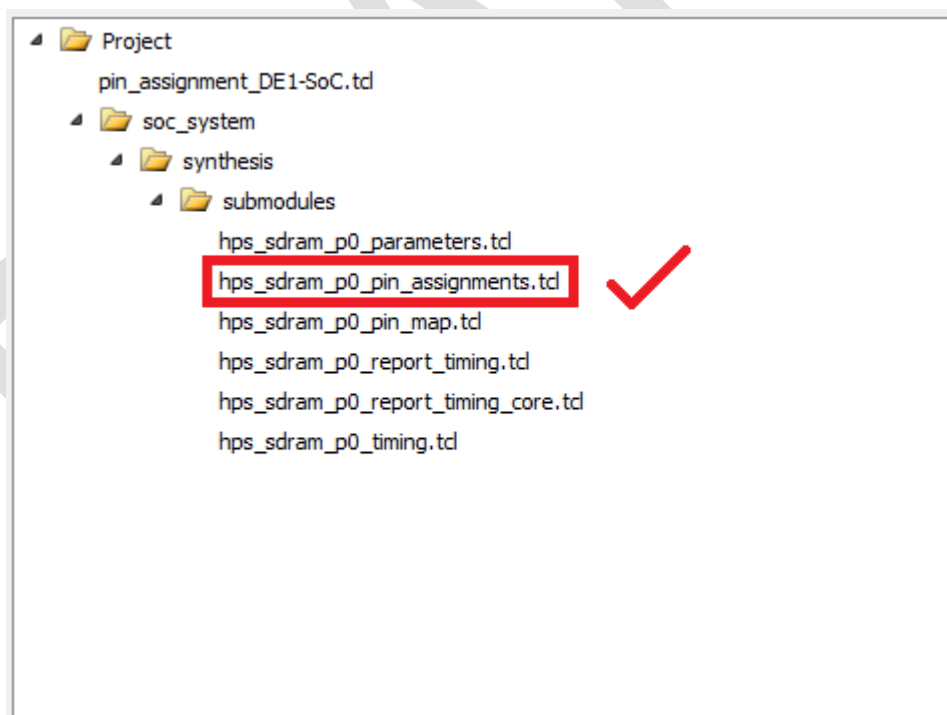

Figure 8-14. Correct HPS DDR3 Pin Assignment TCL Script Selection
**PROGRAM DOESN'T CORRECTLY DETECT TCL FILES GENERATED BY QSYS. YOU SHOULD SEE THE SAME THING AS ON Figure 8-14.**